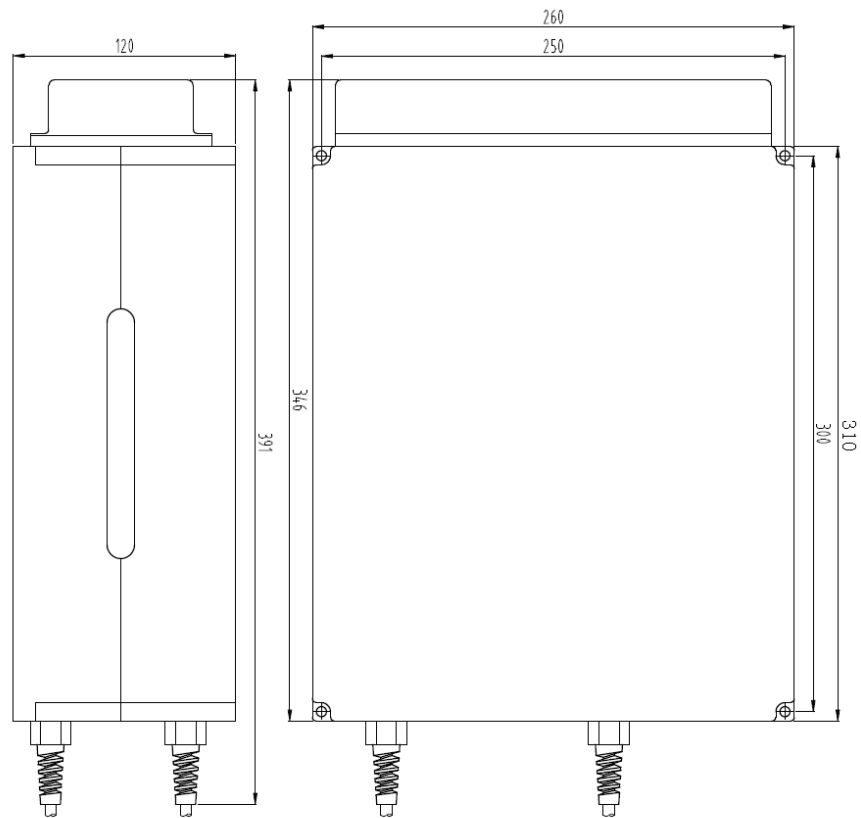

Figure 1. Dimension drawing of laser module (Unit: mm).
1) Fiber Laser module dimensions (As shown in Fig. 1).